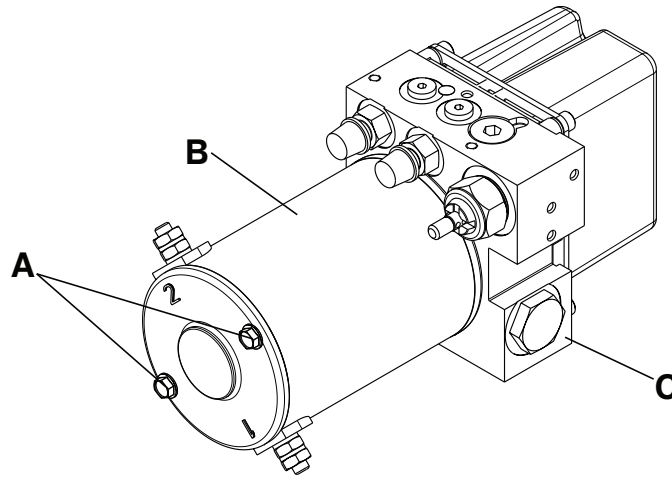

Figure 43 – Motor replacement parts
4. Using a 9/32" socket and 1/4" drive ratchet, remove the two bolts (A) that secure the motor (B) to the hydraulic manifold assembly (C) (Figure 43).